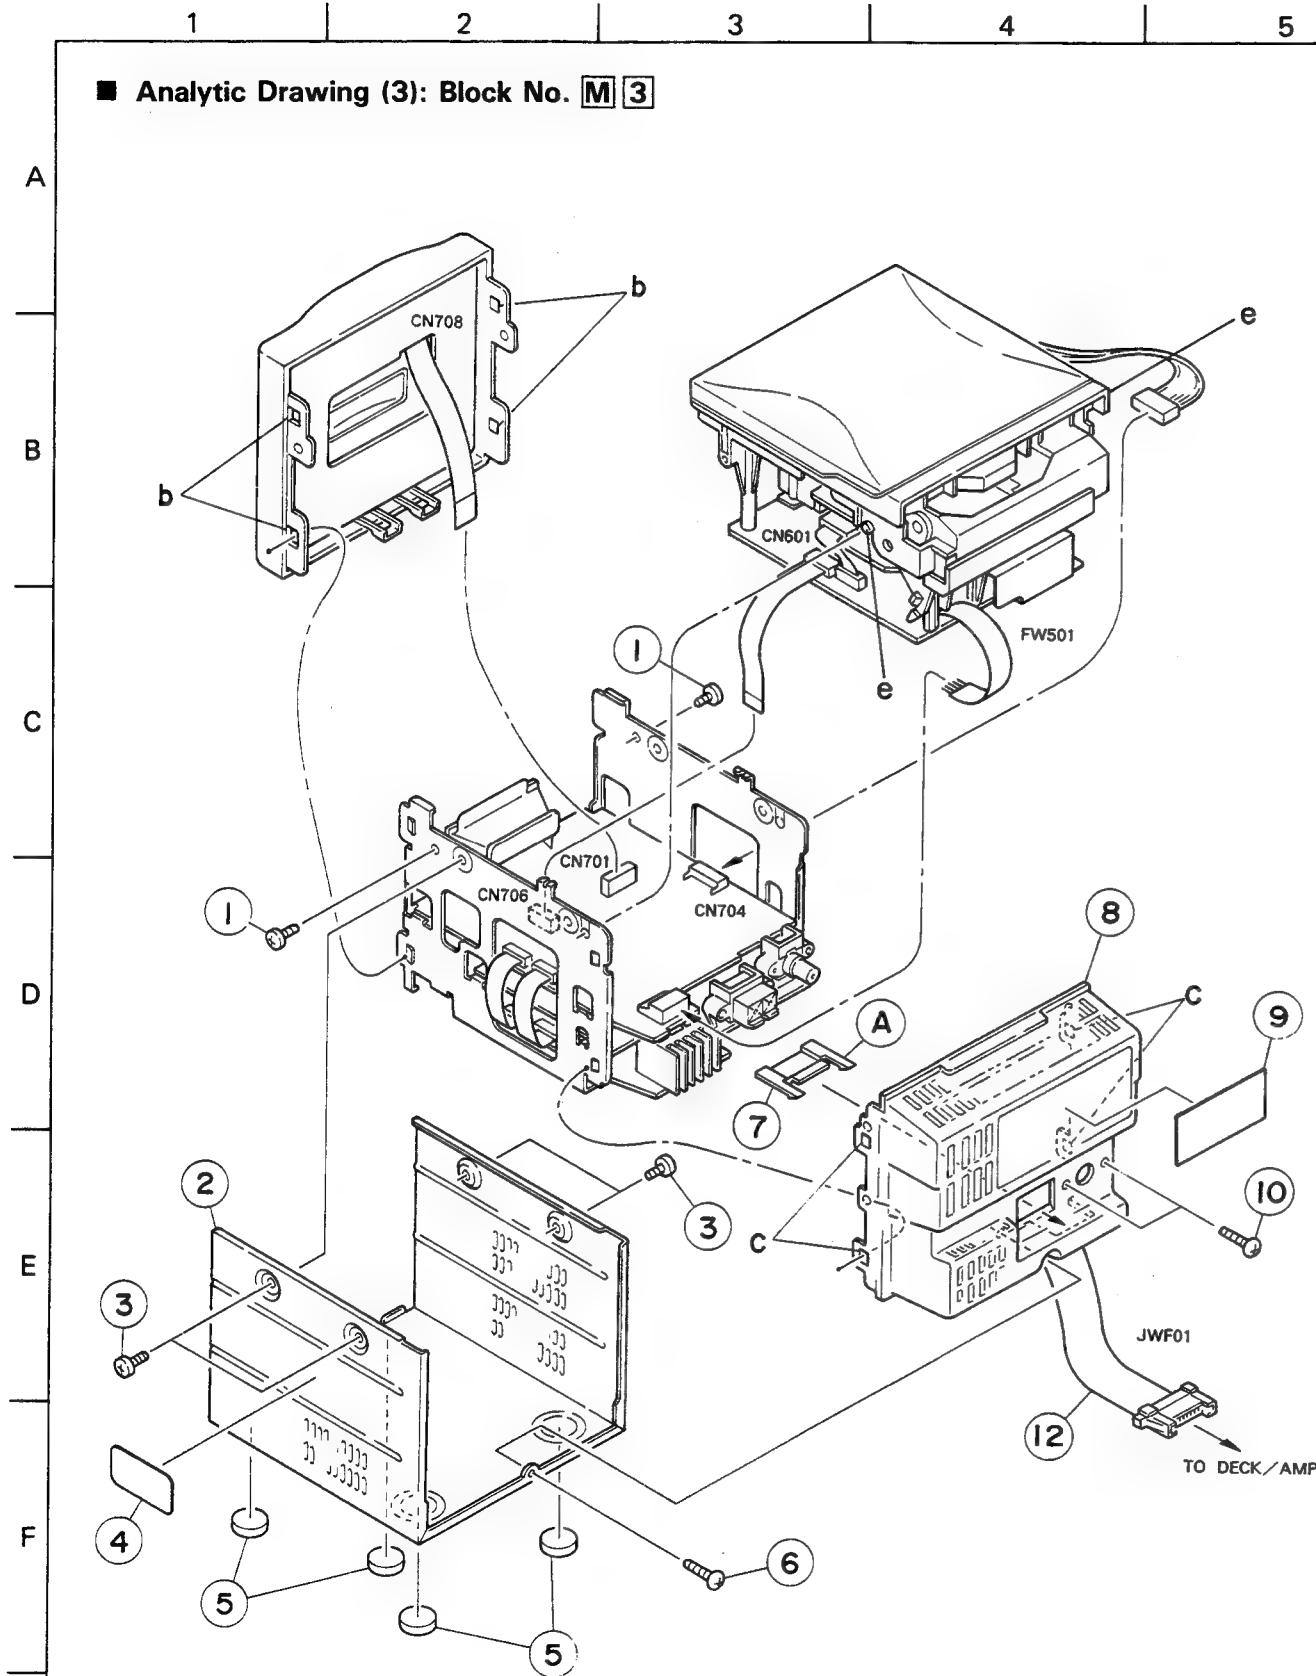

Fig. 7-8
• Metal Cover (Fig. 7-8)
1. Remove the four screws (3) retaining the metal cover from the body.
2. Remove the one screw (6) retaining the metal cover from the back surface of the body.
• Front Panel Ass'y (Fig. 7-8)
• CD Player Ass'y (Fig. 7-8 ~ 11)
2. Remove the two screws (10) retaining the rear panel from the body.
5. Remove the two screws (1) retaining both sides of the CD player ass'y from the chassis.